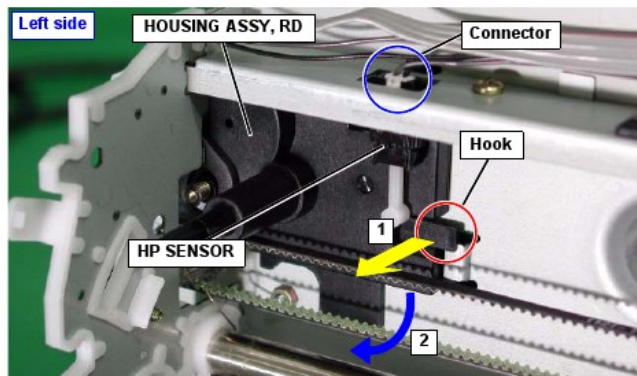

Figure 4-43. HP SENSOR Removal 1
3. While releasing the hook securing the HOUSING ASSY, RD to the FRAME ASSY, CR by pulling it forward, slide it in the clockwise direction. (Refer to Figure 4-43.)